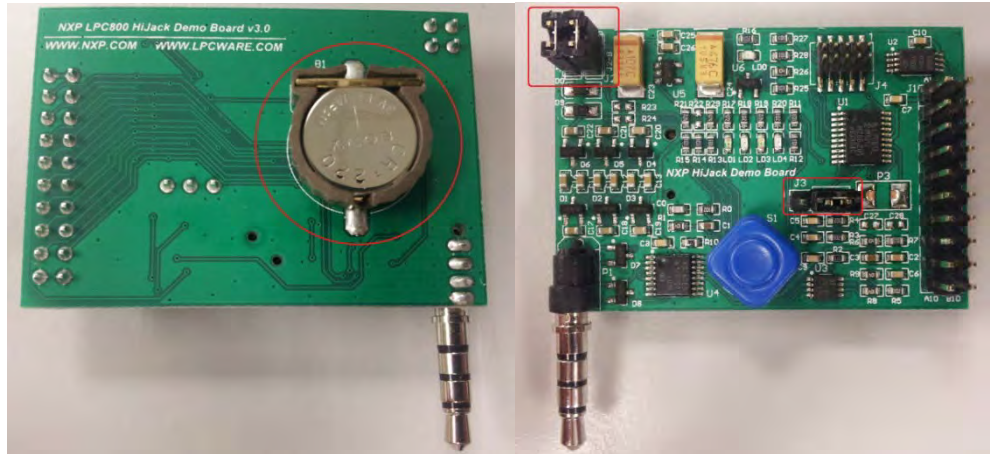

Fig 22. Coin cell battery inserted, jumpers set to default configuration (JP2 on both positions, JP3 placed on the right position)
2. Make sure the coin cell battery (size CR1220) is inserted and that the jumpers on the Quick-Jack board are set to default (Fig 22).